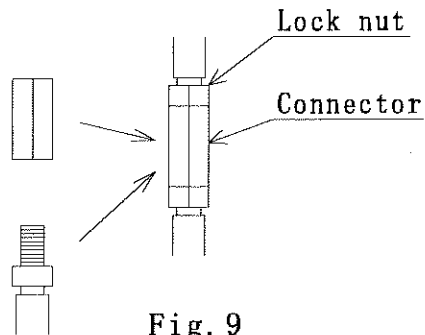

Fig. 9
(3) In case of Titanium (See Fig. 9)